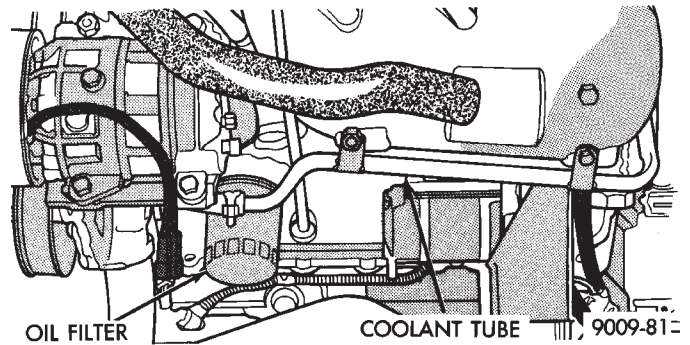

Fig. 14 Oil Filter
(1) Using Tool C-4065, unscrew filter from base and discard (Fig. 14).
(2) Wipe base clean, then inspect gasket contact surface.
- (3) Lubricate gasket of new filter with clean engine oil.
- (4) Install and tighten filter to 20 N•m (15 ft. lbs.) torque after gasket contacts base. Use filter wrench if necessary.
- (5) Start engine and check for leaks.